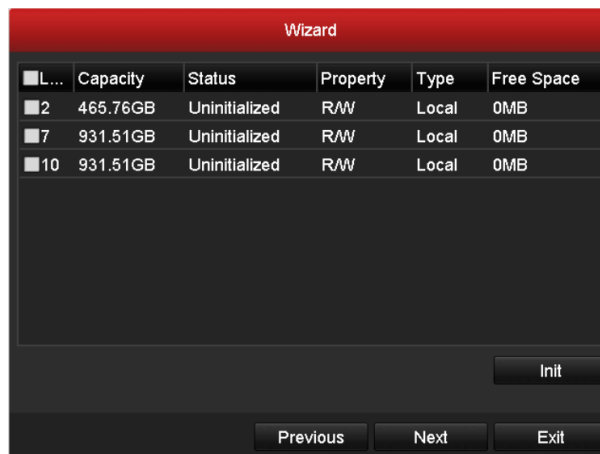

Figure 2-22 HDD Management
Step 8 Click **Next** button after you configured the network parameters, which takes you to the **HDD Management** window, shown in Figure 2-22.